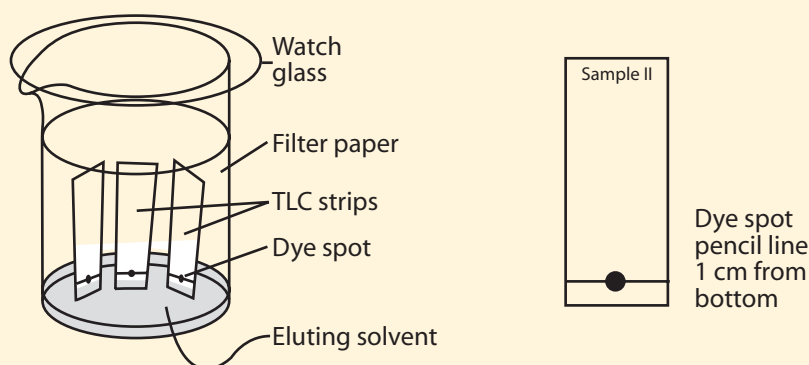

Figure 6.14 Thin-layer chromatography apparatus
9. Set up the chromatographic developing chamber—a large beaker lined with filter paper (see Figure 6.14). Separation is quicker in a solvent atmosphere, which the soaked filter paper provides.